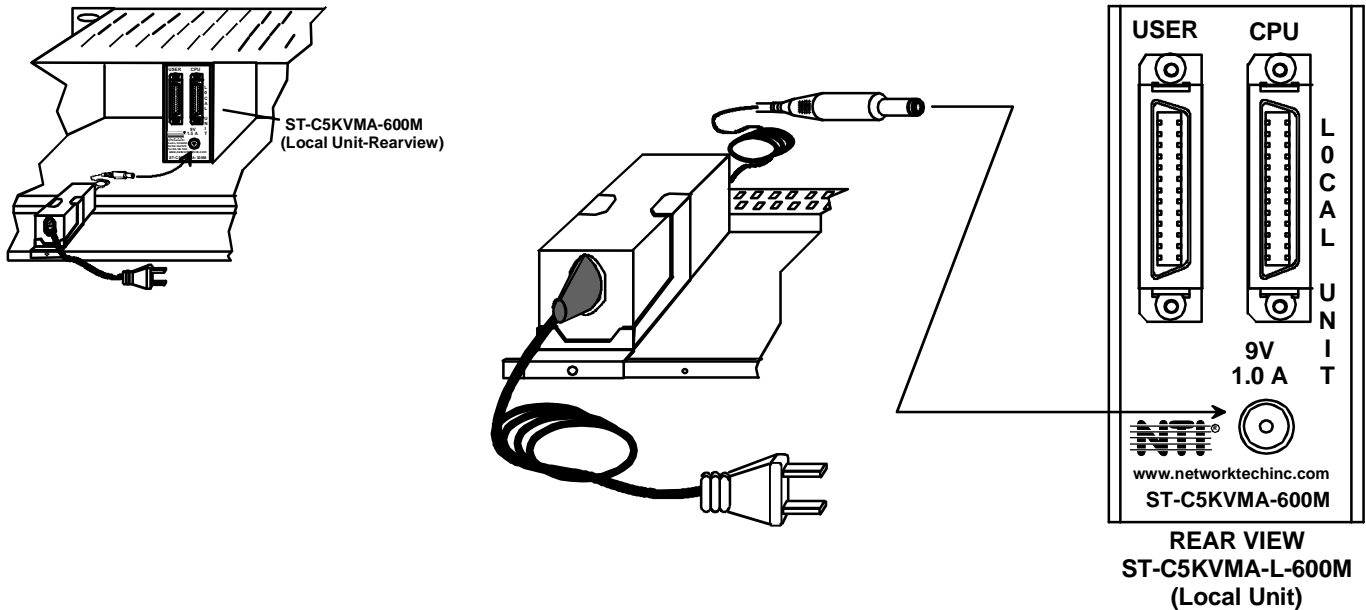

Figure 22- Connect AC adapters
2. Connect the AC adapter power connectors to the 9VDC ports on the Remote and Local Units. (AC adapter shown in Figure 22)